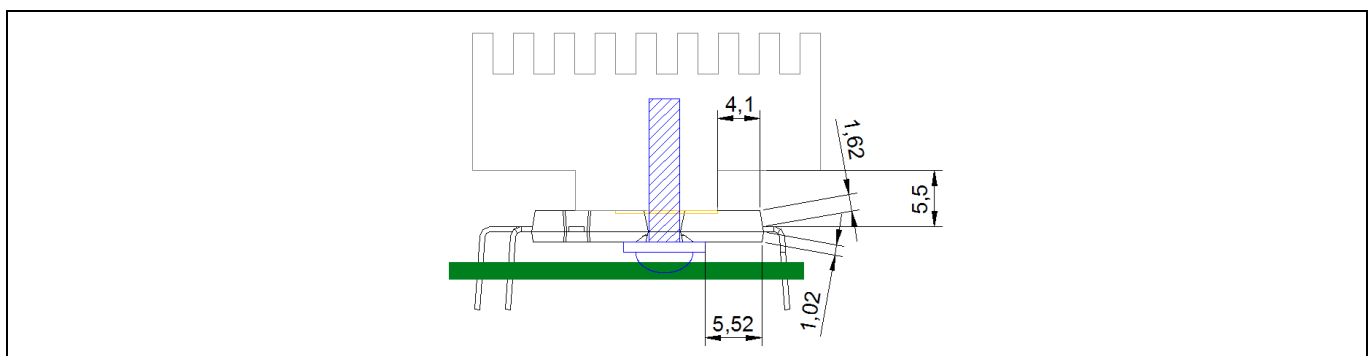

Figure 48 Recommended heat sink shape to get creepage and clearance distance between pins and heat sink (Dimension is symmetric)
The electric spacing specifications of IM828 are shown in Table 27. The IM828 package(DIP 36X23D) does not satisfy the clearance and creepage distance between pins and heat sink (earthed) and the creepage distance on the PCB between signal pins such as (2) to (3), (4) to (5), (6) to (7). Based on IEC and UL standards, to secure a clearance and creepage distance between the pins and the heat sink (earthed), a convex-shaped heat sink is necessary as shown in Figure 48, and the PCB slot is required to keep 4.0 mm creepage on the PCB between the signal pins.